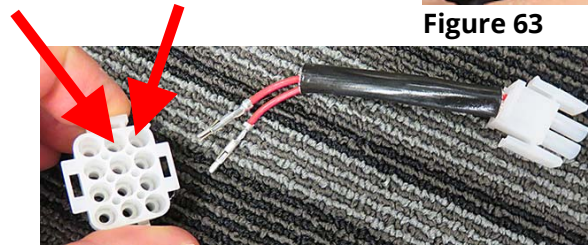

Figure 64
63. Using a pin pusher push pins 1 and 2 out of the 12-pin connector and set aside for later use (see Figure 64).